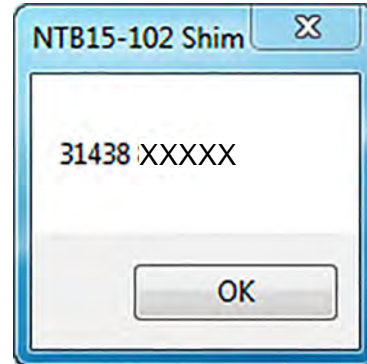

Figure 24
- A shim part number will appear (see example in Figure 24).
17. If Figure 24 appeared, finish step 15, and then go to the next page.